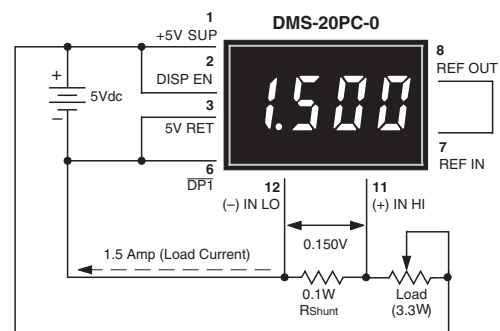

Figure 9. Basic DC Ammeter Circuit
7. Digital Ammeter: Digital ammeters are finding ever-increasing usage because analog-style ammeters (moving-vane types) now cost roughly the same as their digital counterparts. Additionally, analog ammeters are not nearly as rugged as modern digital panel voltmeters. Figure 9 illustrates a typical ammeter application. The circuit uses a ±200mV input meter — the preferred range for most ammeters — to measure the voltage developed across a 0.1Ω current shunt. The circuit shown represents a basic ammeter connection diagram. A detailed application note describing digital dc ammeters is included in DATEL's new Digital Panel Meter Databook.